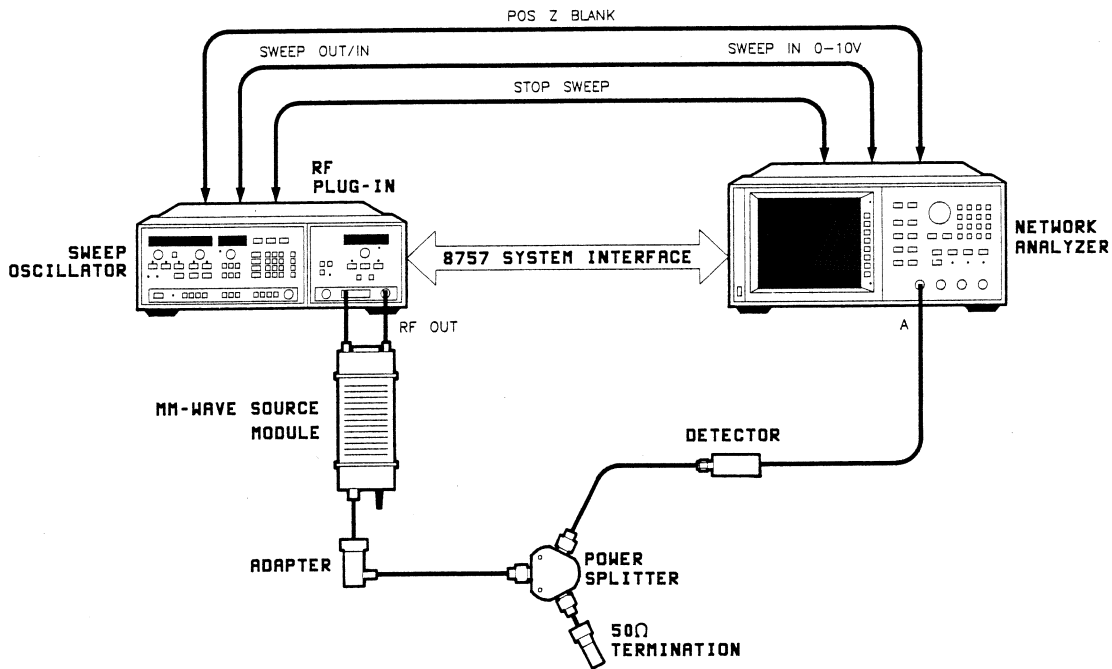

Figure 4-4. Output Tracking Test Setup 40 to 50 GHz
1. Set up equipment as shown in Figure 4-4. Allow 30 minutes warm-up.